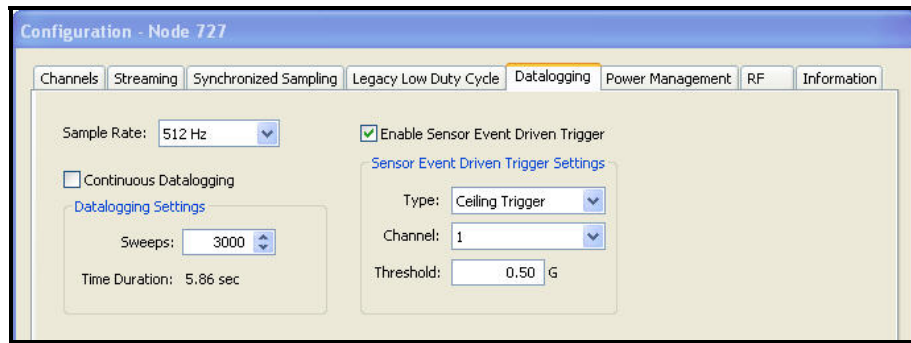

Figure 4 – Datalogging tab
- Click the Datalogging tab and the tab will appear as shown in *Figure 4*.